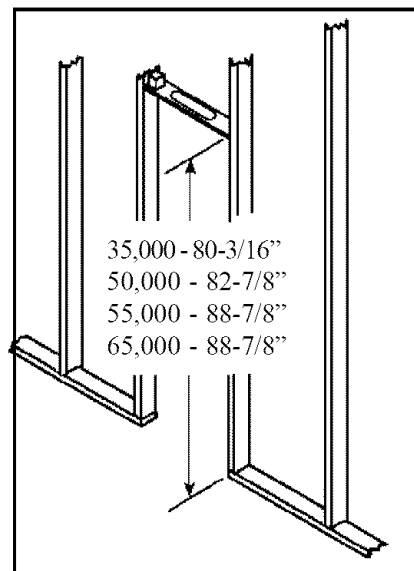

FIGURE 6
- STEP 4.** Square up and nail header plate in place between 2x4 studs placed on 16" centers (14-3/8" between studs). For distances from top of header plate to floor, see Figure 6.